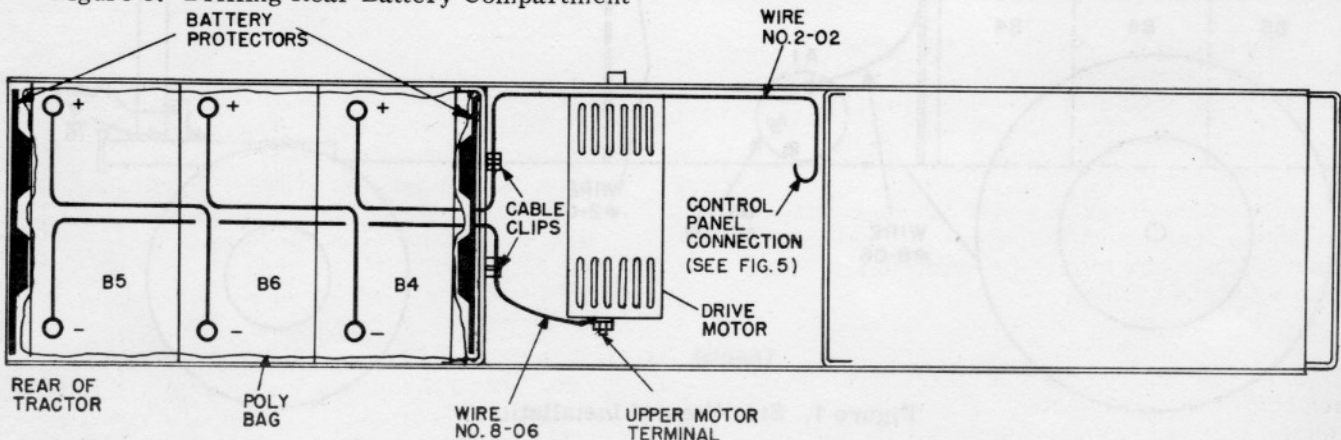

Figure 4. Wiring and Battery Layout
8. Place the vacuum-formed battery protector between the poly bag and the compartment wall at each end of the compartment. Position the protectors so their corrugations will face the battery walls. See Fig. 4.
9. Carefully set the batteries in the bag as shown in Fig. 4 so the sides of the bag remain above the top surface of the batteries in equal amounts. (It may help to tape the upper edges of the bag to the compartment sides temporarily to permit easy insertion of the batteries.) **DO NOT CONNECT BATTERY CABLES AT THIS TIME!**
11. Attach the battery cable numbered 2-02 to the insulated stud or the circuit breaker as required. See Fig. 5. Route the cable toward the rear battery compartment under the control cabinet along the left side of the frame. **KEEP THE CABLE FREE OF STEERING GEARS AND SHIFT LEVER.** Attach the cable to the positive (+) post of battery B4, as shown in Fig. 4.
12. Attach the cable numbered 8-06 to the uppermost motor terminal and route the cable into the rear battery compartment keeping it away from the gear shift lever. Attach cable to the negative (-) terminal of battery B5 as shown in Fig. 4. Complete the battery wiring, also shown in Fig. 4, and reconnect the battery cable 2-01 to battery B2 in the front compartment.